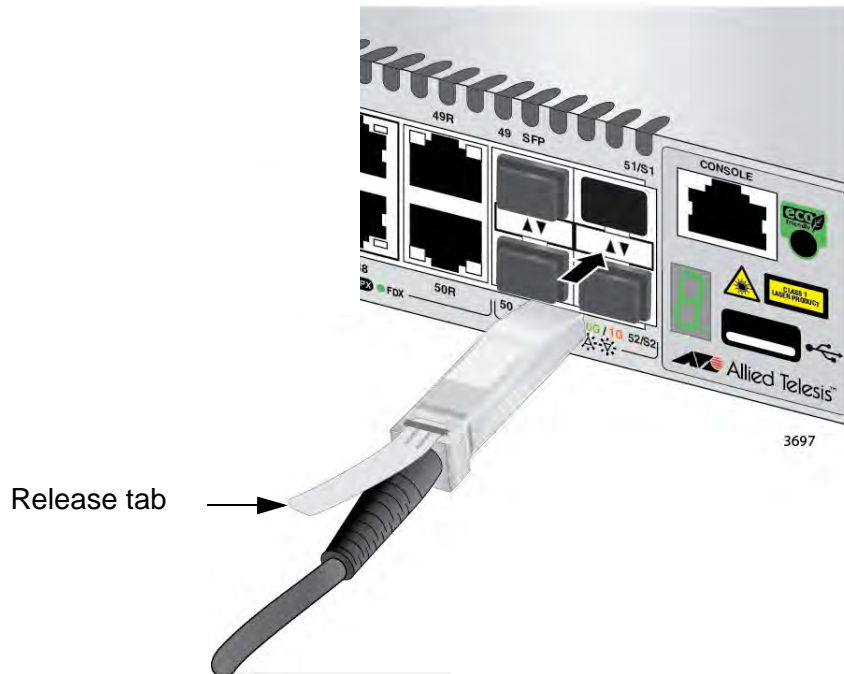

Figure 39. Installing the Transceiver in Slot S1
4. Position the transceiver with the release tab on top and slide the transceiver into the slot, as shown in Figure 39.